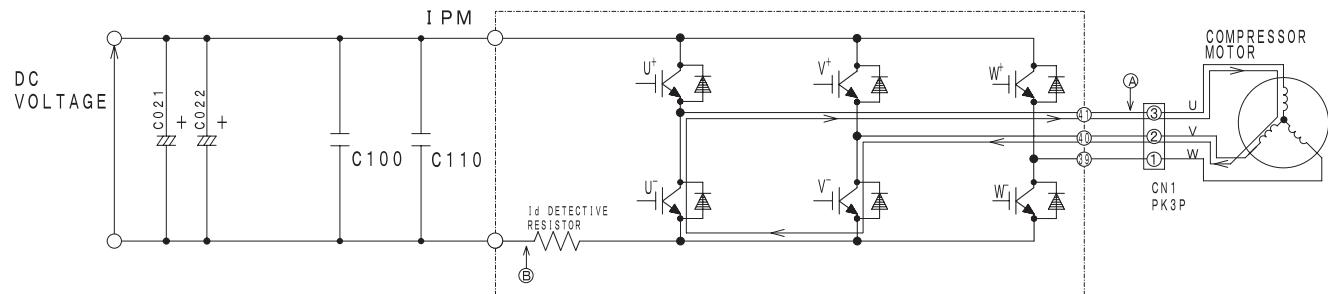

Fig. 4-4 Power module circuit (U^+ is OFF, V^- is ON)
At point ⑥: U⁺ is chopped (OFF), V⁻ is ON (circuit in Fig. 4-4)
- (2) When U⁺ transistor is OFF: (by inductance of motor coil) U coil → V coil → V⁻ transistor → U⁻ diode → Point ③ (Fig. 4-4)